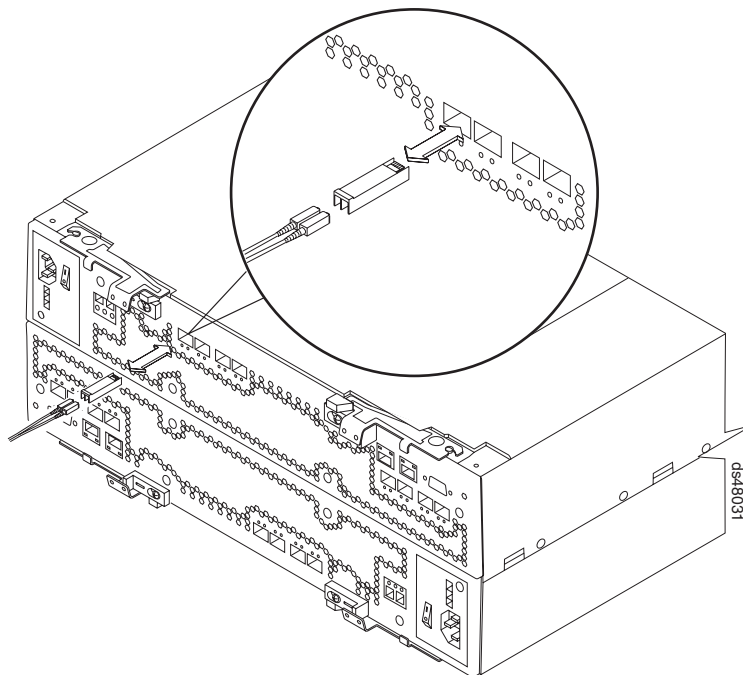

Figure 26. Replacing an SFP module
4. Insert the SFP module into the fibre channel port until it clicks into place. See Figure 26.
Note: The alignment of the fibre channel ports on controller A are opposite those of controller B. Before inserting an SFP module into a port, verify that the SFP module is rotated correctly to match the alignment of the port on the RAID controller. Do not force-fit. For fibre channel ports in controller A, SFPs should be inserted with the exposed printed circuit facing up (as shown in Figure 26). For fibre channel ports in controller B, SFPs should be inserted with the exposed printed circuit facing down.